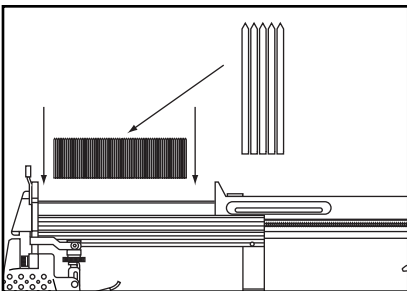

Figure 2. Loading the nailer/stapler.
4. Point the nailer/stapler up and insert a stick of nails/staples into the magazine as shown in **Figure 2**. Make sure that the pointed ends of the nails/staplers point in the same direction as the Model H2912/H2913 nose and the nails/staples rest in the slot at the bottom of the magazine.